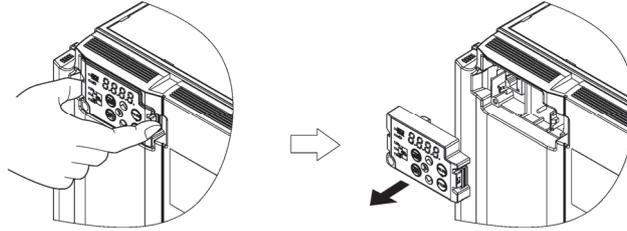

Figure 2.3-4 Removal of the Keypad
- (1) Squeeze the hooks at the arrows and pull as shown in Figure 2.3-4.